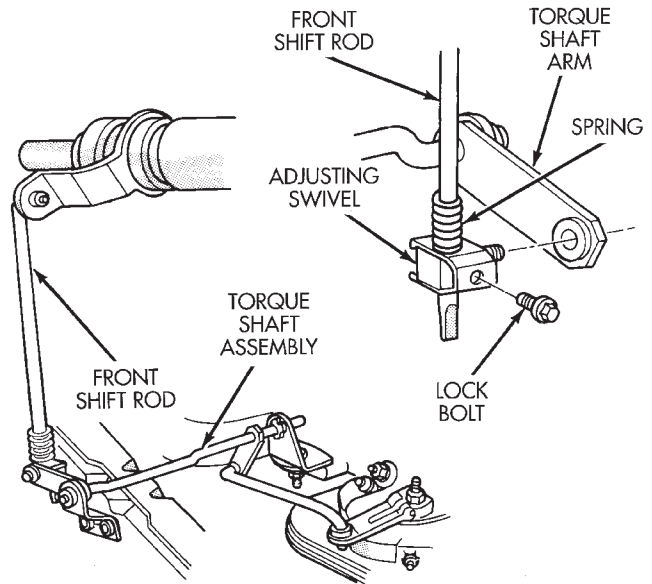

Fig. 247 Linkage Adjustment Components
Check condition of the shift linkage (Fig. 247). Do not attempt adjustment if any component is loose, worn, or bent. Replace any suspect components.
- (1) Shift transmission into Park.
- (2) Raise and support vehicle.
- (3) Loosen lock bolt in front shift rod adjusting swivel (Fig. 247).
- (4) Ensure that the shift rod slides freely in the swivel. Lube rod and swivel as necessary.
- (5) Move transmission shift lever fully rearward to the Park detent.
- (6) Center adjusting swivel on shift rod.
- (7) Tighten swivel lock bolt to 10 N·m (90 in. lbs.).
- (8) Lower vehicle and verify proper adjustment.